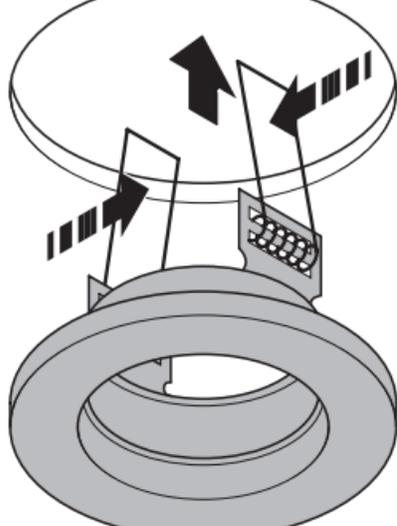

Fig. 2
3. Press the springs together and place the lamp in the sawn out hole (see Figure 2).